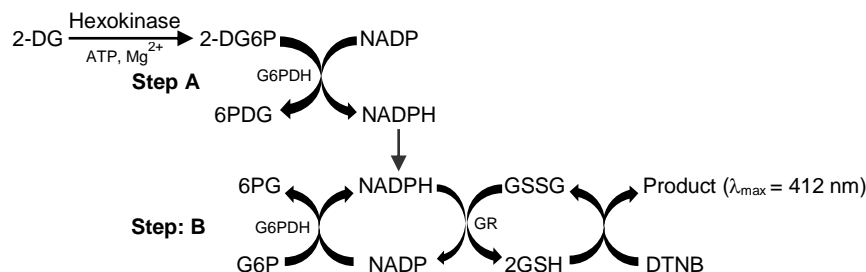

Figure 1. Assay Procedure. Step A: 2-DG oxidation to generate NADPH; Step B: NADPH recycling amplification reaction
b. **NADP Degradation:** To degrade unused NADP (Figure 1, step A), add 90 μ l of Extraction Buffer to each well, seal with aluminum sealing tape and heat at 90°C for 40 min. Cool on ice for 5 min and add 12 μ l of Neutralization Buffer.
Figure 1. (a) 2-DG6P Standard Curve **(b)** 2-DG uptake in 3T3-L1, human adipocyte and HeLa cells. To scale on the same graph, data from 3T3-L1 cells is plotted at 10% of true value. Assays were performed following kit protocol. 2-DG = 2-deoxyglucose, I = Insulin; P = Phloretin.